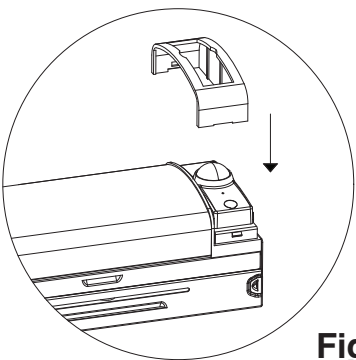

Fig. 5
5. Attach the included sensor bracket cover. (Fig. 5)